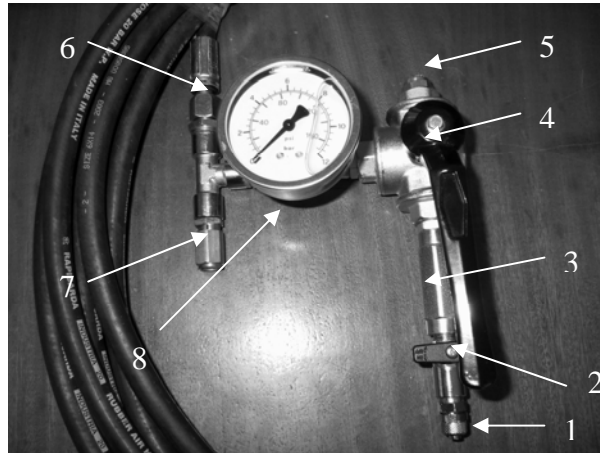

Fig. 1 Pneumatic valve. AZN6100
1. Place the stop valve (2) in closed position (horizontal position with respect to figure 1).
2. Make the air connection through the fast plug (1) to AZN6100 valve.
3. Open the stop valve (2) (vertical position with respect to the figure 1).
4. Turn the handle of the directional valve (4) until its vertical position, this way the air goes directly towards the lifting cushion.
5. Control with the gauge (8) that the pressure does not exceed of 8 bar. To such aim, the valve also has the pressure limiter valve (7) rated on factory, that avoids the overpressure.
6. If the cushion; although it is not swollen to its entire capacity, has reached the position you wish; you will be able to keep this position maintaining the directional valve (4) opened and closing the stop valve (2); i.e., placing it in horizontal position, which prevents the passage of the air, being the check valve the one that maintains the pressure.
7. To deflate the lifting cushion, place the handle of the directional valve in horizontal position (4); the silencer will expel the air.